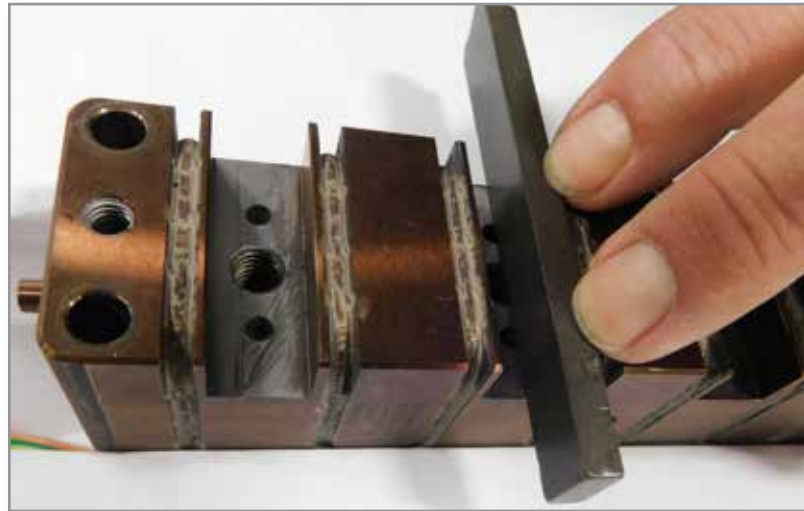

Figure 5-87 Clean manifold interfaces
2. Clean the manifold interfaces with a fine grade (400 or 600 grit) polishing stone. See Figure 5-87.
7. Clean the manifold interfaces on Melt-Cube using a fine polishing stone. See “Figure 5-87 Clean manifold interfaces” on page 5-143.